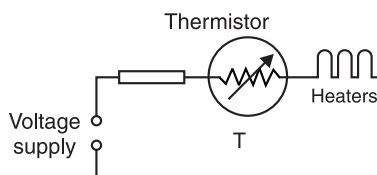

Fig. 1.28
- (a) A thermistor with negative temperature coefficient of resistance may be used to safeguard against current surges in a circuit where this could be harmful e.g. in a circuit where the heaters of the radio valves are in series (See Fig. 1.28).